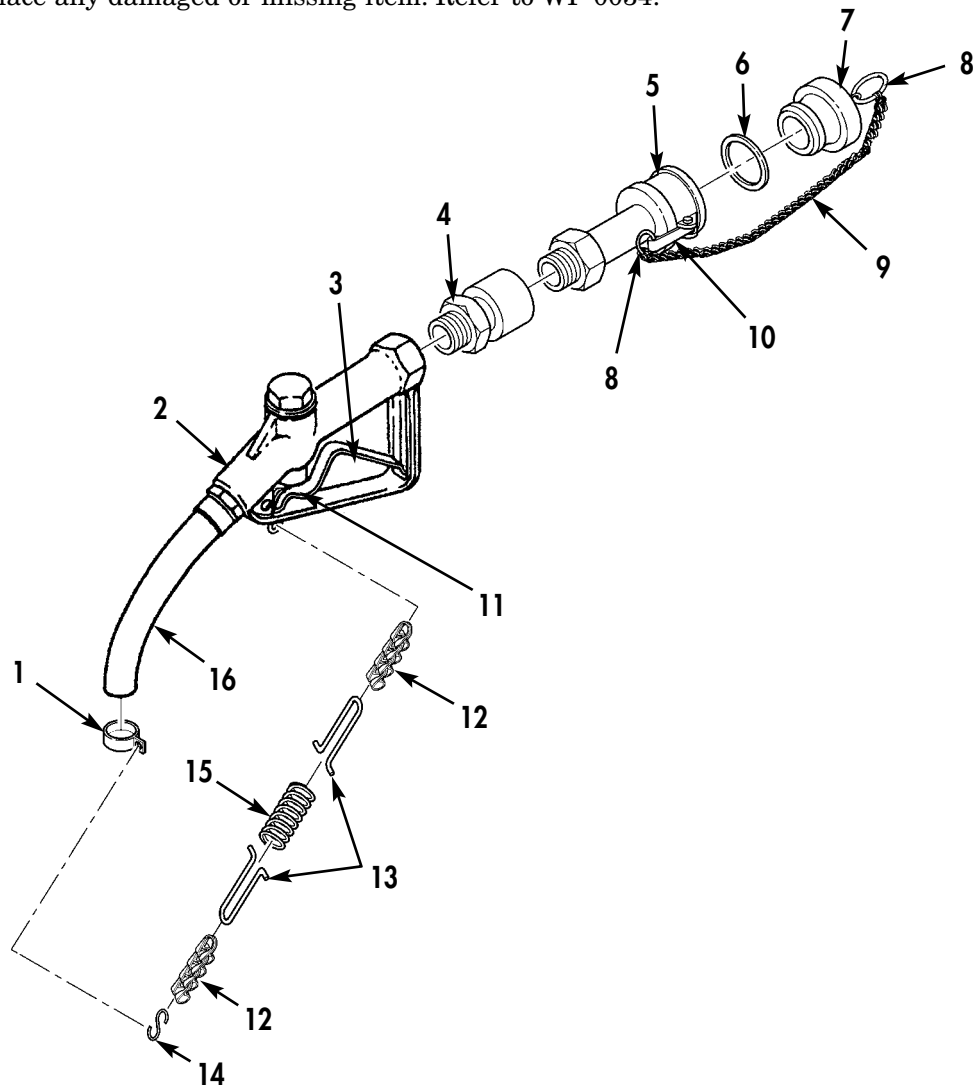

Figure 2. Nozzle Cap, Swivel, and Coupling.
2. Remove coupling half (Figure 2, Item 5) and swivel joint (Figure 2, Item 4) from nozzle assembly (Figure 2, Item 2).
3. Remove dust cap (Figure 2, Item 1) assembly from nozzle assembly (Figure 2, Item 2). Do not disassemble at this time.
1. Inspect exterior of nozzle assembly (Figure 2, Item 2) for cracks, distortion, and damaged or missing parts. If any damage or missing parts are found, discard nozzle assembly (Figure 2, Item 2).
2. Check for smooth operation of nozzle lever (Figure 2, Item 3). If lever (Figure 2, Item 3) or valve stem (Figure 2, Item 11) do not return when pulled, discard nozzle assembly (Figure 2, Item 2).
3. Inspect swivel joint (Figure 2, Item 4) for cracks, distortion, and excessive looseness that would result in leaks. If any cracks, distortion, or excessive looseness is found, discard swivel joint (Figure 2, Item 4).
4. Inspect coupling half (Figure 2, Item 5) for cracks, distortion, missing or excessively worn cam arms (Figure 2, Item 10), and damage to mating surfaces that would result in leaks. If cam arms (Figure 2, Item 10) are missing, worn, or damaged, or if any cracks, distortion, or damaged mating surfaces are found, discard coupling half (Figure 2, Item 5).
5. Inspect dust cap (Figure 2, Item 1), two links (Figure 2, Item 14), chains (Figure 2, Item 12), draw bars (Figure 2, Item 13), and compression spring (Figure 2, Item 15) for damage or if missing. Remove and replace any damaged or missing item. Refer to WP 0034.